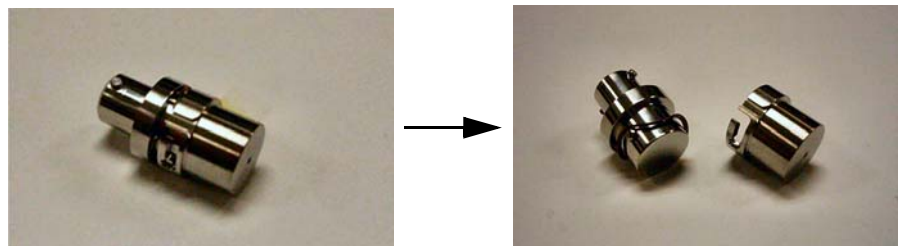

Figure 3-23. Separating ion volume and ion volume holder
- c. Press the ion volume into the ion volume holder and rotate the ion volume to remove it from the ion volume holder See Figure 3-23.